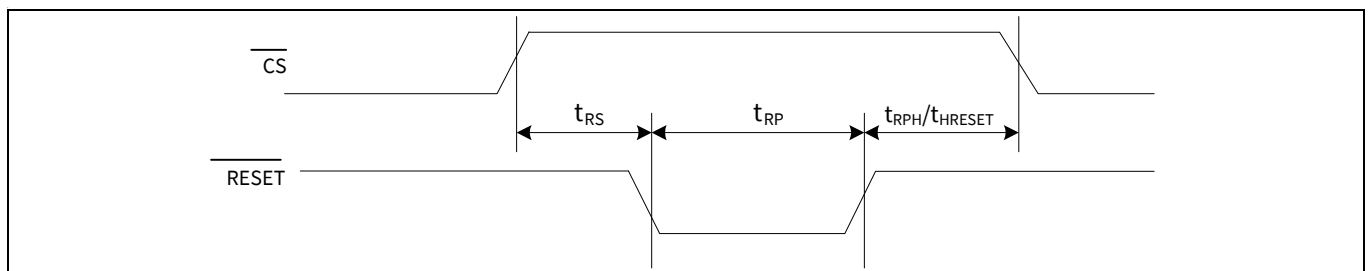
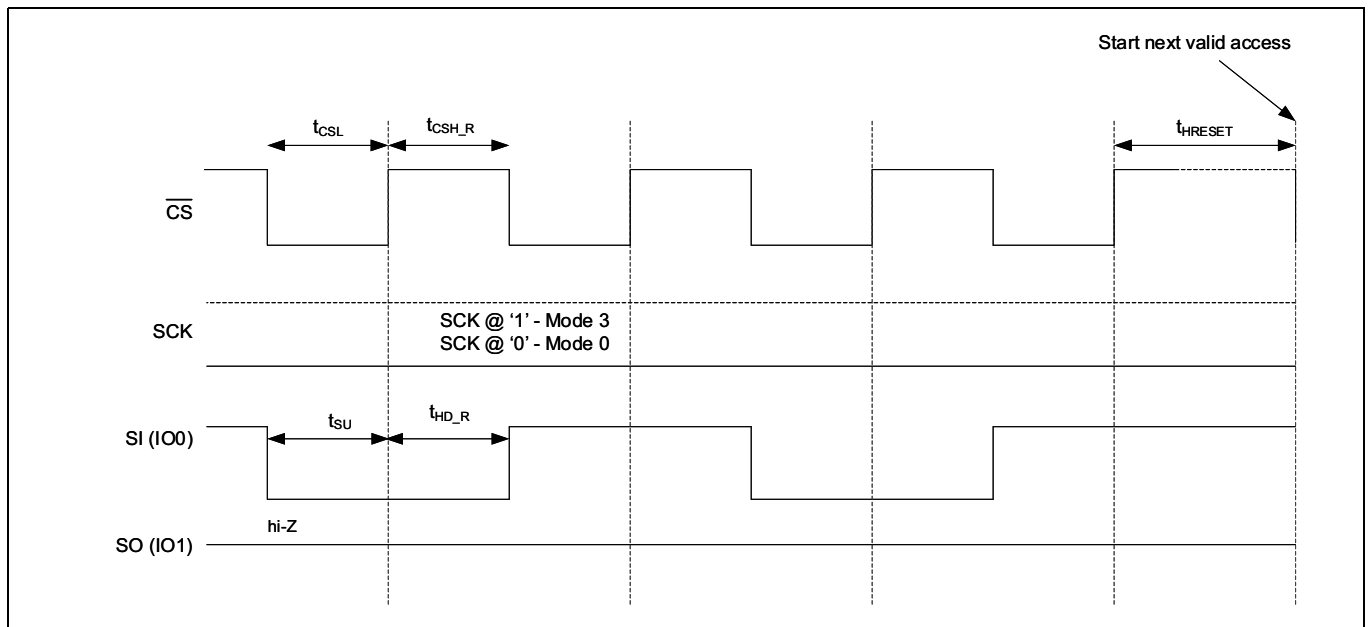

Figure 109 $\overline{\text{RESET}}$ timing - SPI with quad set (CR1[1] = 1) or QPI enabled (CR2[6] = 1)
Figure 111 JEDEC SPI reset
The hardware reset input ($\overline{\text{RESET}}$) is multiplexed on ($\overline{\text{RESET}} / \text{I/O3}$) and is an active LOW signal in CY15x116QSN device. Refer to **Table 21** for hardware reset ($\overline{\text{RESET}}$) pin configurations across various SPI interfaces. When $\overline{\text{RESET}}$ is pulled LOW, CY15x116QSN self initializes and brings its configuration back to the power up status. Refer to **Table 59** for different registers configuration after $\overline{\text{RESET}}$ cycle. Once $\overline{\text{RESET}}$ is issued, CY15x116QSN takes $t_{\text{RPH}}/t_{\text{HRESET}}$ time from $\overline{\text{RESET}}$ rising edge to complete the reset cycle. CY15x116QSN becomes inaccessible during t_{RPH} time. **Figure 109** to **Figure 111** show the $\overline{\text{RESET}}$ timings in different reset mode.
- The $\overline{\text{RESET}}$ pin is multiplexed on I/O3 in the QPI mode. When using the hardware ($\overline{\text{RESET}}$) in QPI mode, the CR2 [5] bit must be set to '1' to enable to use I/O3 as $\overline{\text{RESET}}$ input when $\overline{\text{CS}}$ is HIGH. **Figure 109** shows the $\overline{\text{RESET}} / \text{I/O3}$ timing in QPI mode
Refer to Figure 111 for timing details.